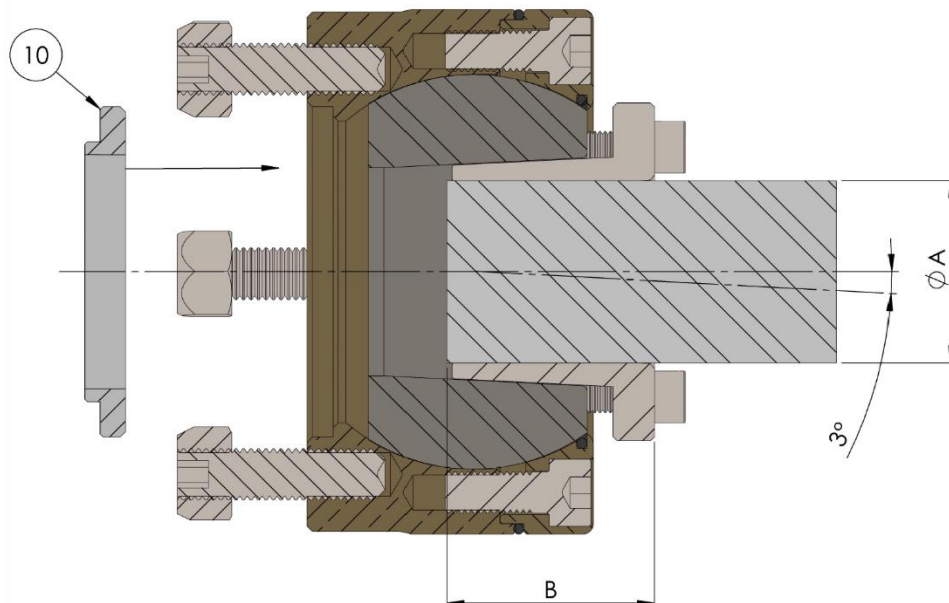

Fig 2. SigmaDrive angle drawing (Generic drawing for illustrative purposes only)
- Insert the M10 high tensile studs (11) into the corresponding tapped holes to match the gearbox output flange. Lock the studs using the two narrow M10 lock nuts (14) and the loctite **290** supplied. Remove and discard the two narrow M10 lock nuts (14) after fitting.
- Ensure the output flange register (10) is inserted into the SigmaDrive unit prior to fitting to the gearbox flange. This will ensure the SigmaDrive is centered on the gearbox and should be a snug fit. See Fig 2.
- Please apply a light oil film on the outer surface of the taper lock (7), making sure that the surface between the taper and central sphere (3) is clean and well lubricated. Use WD-40 or hydraulic oil, this will aid removal. Please do not use oil with molybdenum disulfide, high pressure additives or graphite grease on either the shaft or taper lock. These substances notably reduce the friction coefficient for the clamp unit. Do not apply any lubricant between the shaft and the inside of the taper lock (7) surfaces.**
- Carefully slide the clamp unit (7) onto the propeller shaft to the minimum depth indicated in table 2 (See Fig 2 for diagram). Maximum shaft insertion depth is 60mm.